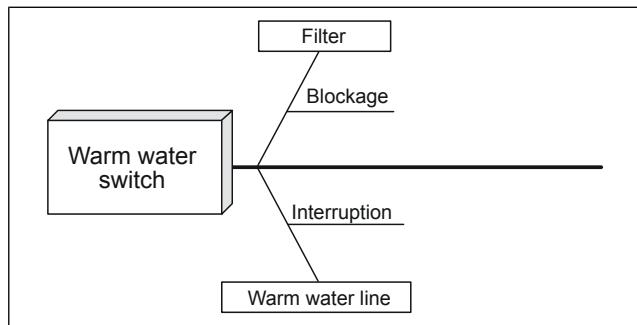

Fig. 3. Warm water, error diagram.
Insufficient warm water pressure. Possible error sources (Fig. 3):
3. Remove the 4 screws from the upper part of the cell (Fig. 3, step A). Be careful not to drop the screws into the cell!